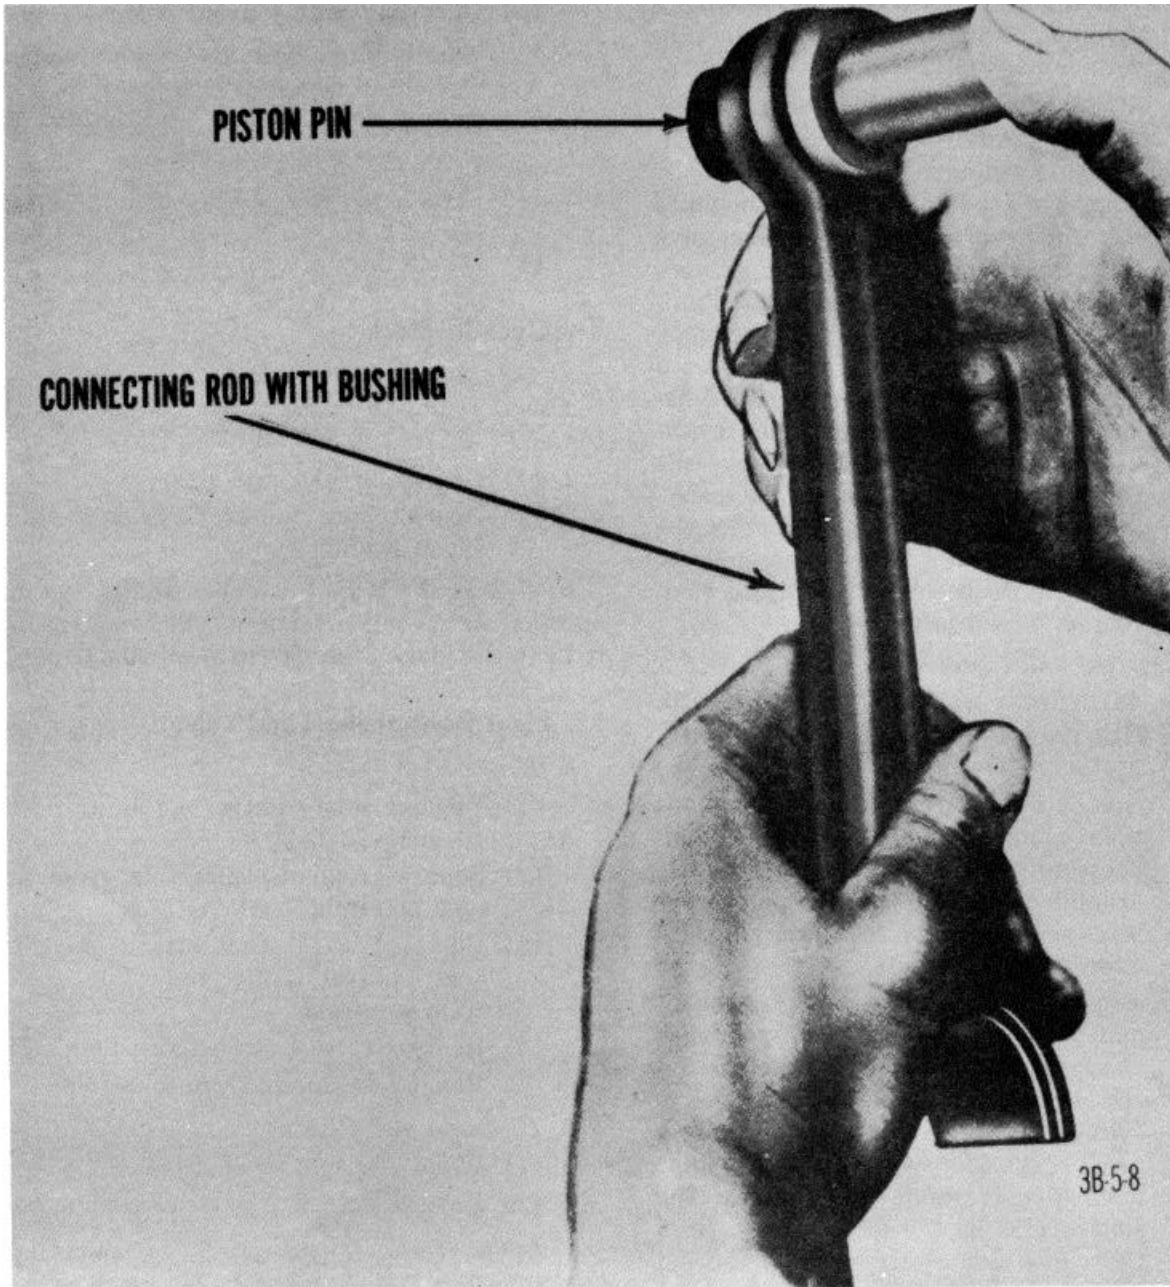

Figure 15. Fitting piston pin.
c. *Fitting Piston Pins.* Check fit of piston pin in connecting rod, as shown in figure 15. The piston pin should be a palm-push fitting piston at room temperature (70° F.). Do not enlarge piston pin bores unless oversize piston